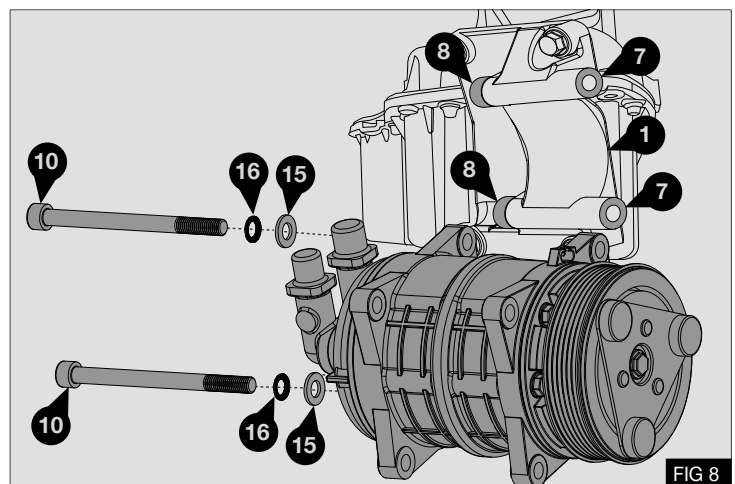

FIG 8
1. Mount a compatible compressor specified on page 6 to the mount bracket (1), using 2 x 8.5 MM Spacers (8) between the rear ears of the compressor and the back mounting face of the mount bracket (1), 2 x 1.6 MM Spacers (7) between the front ears of the compressor and the front mounting face of the mounting bracket (1) 2 x M10 x 130 bolts (10), 2 x flat washers (15) and 2 x Schnorr safety washers (16) - Fig 8